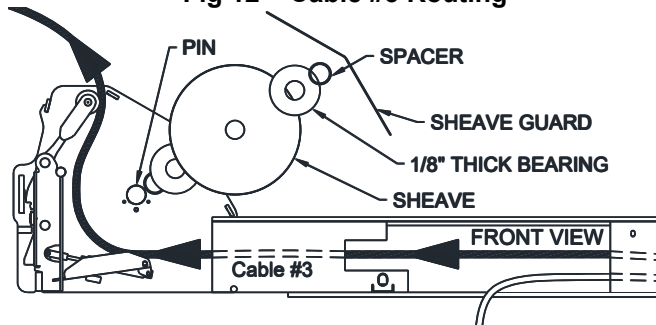

Fig 13 – Cable #3 Routing
- 33) Route **Cable #2** through the Power side access hole and up and out the end of the Front Crossbeam in the same way **Cable #3** as shown in **Fig 13**.